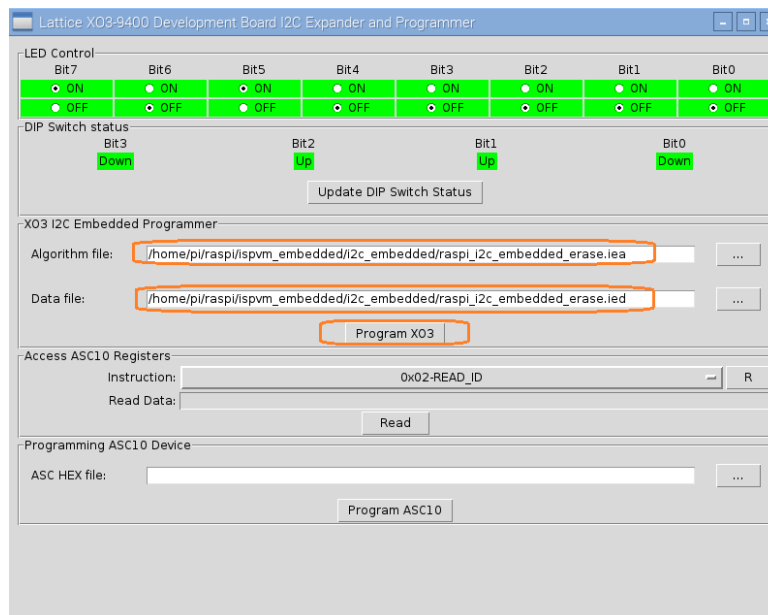

Figure 8.1. I2C Expander and Programmer GUI
7. Files under /home/pi/raspi/ are used to complete the three Demos in Section 9, Section 10, Section 11 through the I2C Expander and Programmer GUI (Figure 8.1).